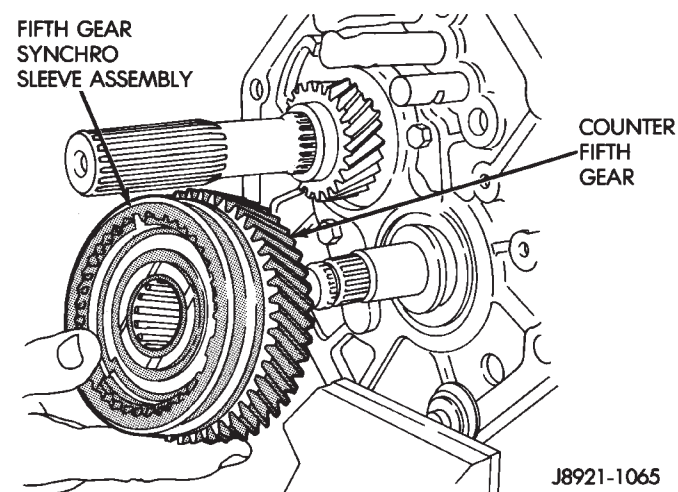

Fig. 58 Remove Fifth Gear And Synchro Assembly
(10) Remove the countershaft fifth gear assembly from countershaft (Fig. 58).